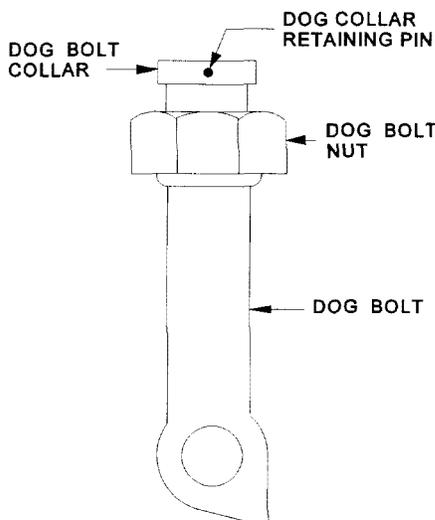

Figure 2-26. Dog Bolt Assembly
- c. With the hatch open, examine the dog bolt threads and nut for wear. Wear is indicated by excessive wobble between the nut and dog bolt. Replace the dog bolt assembly if it is excessively worn. Ensure that the flats on the dog bolt nut are in good condition and that the dogging wrench fits it properly. Replace the nut if the flats are rounded off. Ensure that the collar is not missing from the top of the dog bolt. The purpose of the collar is to prevent the loss of the nut when the hatch is opened. If all is satisfactory, coat the dog bolt threads with a light coating of silicone compound. See figure 2-26.